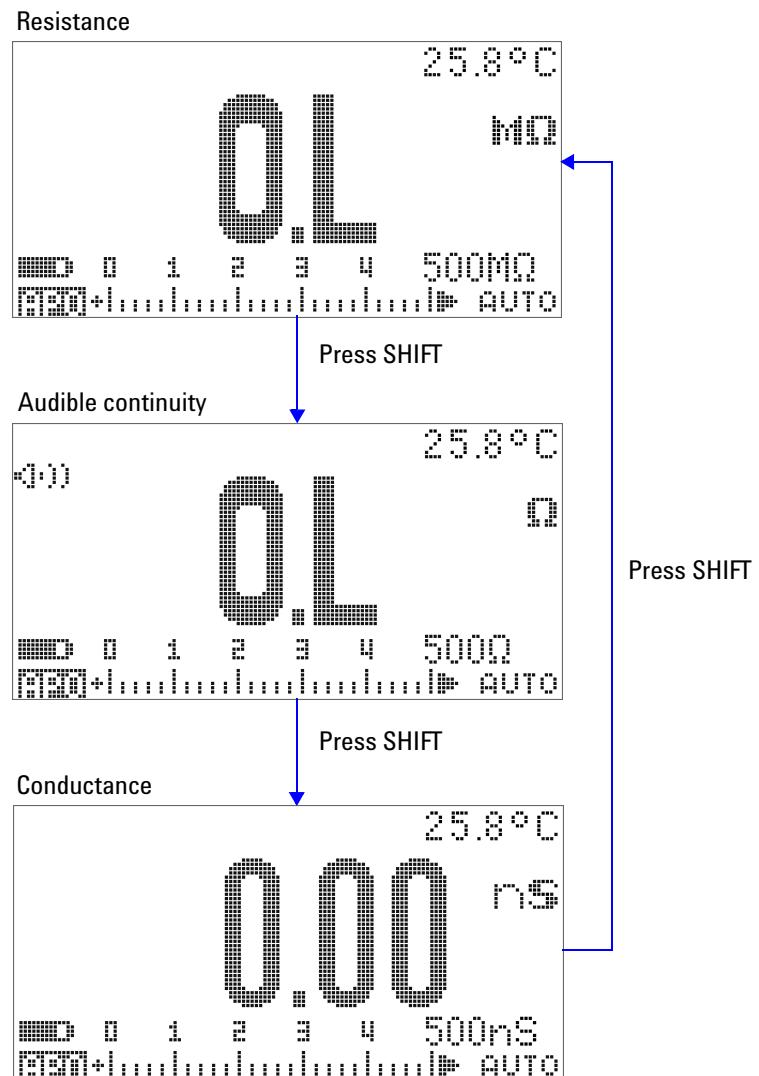

Figure 2-8 Resistance, audible continuity, and conductance tests
- 4 Press to scroll through audible continuity test (or), conductance measurement ()¹, and resistance measurement (, , or) as shown in Figure 2-8 on page 42.